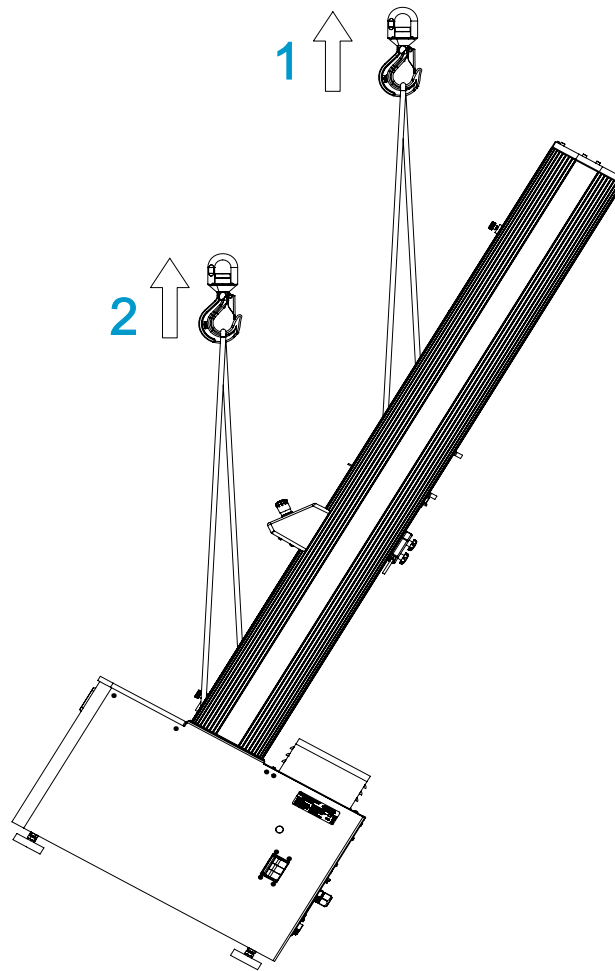

Figure 18. Righting a Load Frame Using a Crane
Refer to Figure 18 on page 68.
2. Attach the two lifting slings to the crosshead and secure them to the crane hook as shown in Figure 18 on page 68. If you use chains in lieu of lifting slings, wrap protective material around the crosshead to protect the crosshead from scratching and marring. Chains can also cause damage to other parts of the frame, the top plate for example; be sure to wrap protective material around all vulnerable components.
3. Install two M16 hoist bolts into the frame base and attach two additional slings to the bolts, as shown in Figure 18 on page 68.
Legend for Figure 18